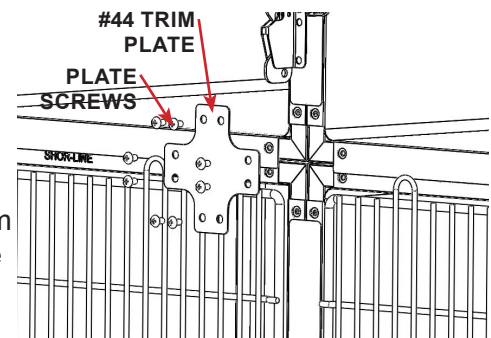

FIGURE 2.46 - Trim Plate #44
STEP 24: Remove the bottom right trim plate screws from the next cage in the row and the cage below. See FIGURE 2.46
STEP 25: Install, but do NOT fully tighten screws, trim plate (#44) using the screws removed in the previous step. See FIGURE 2.46